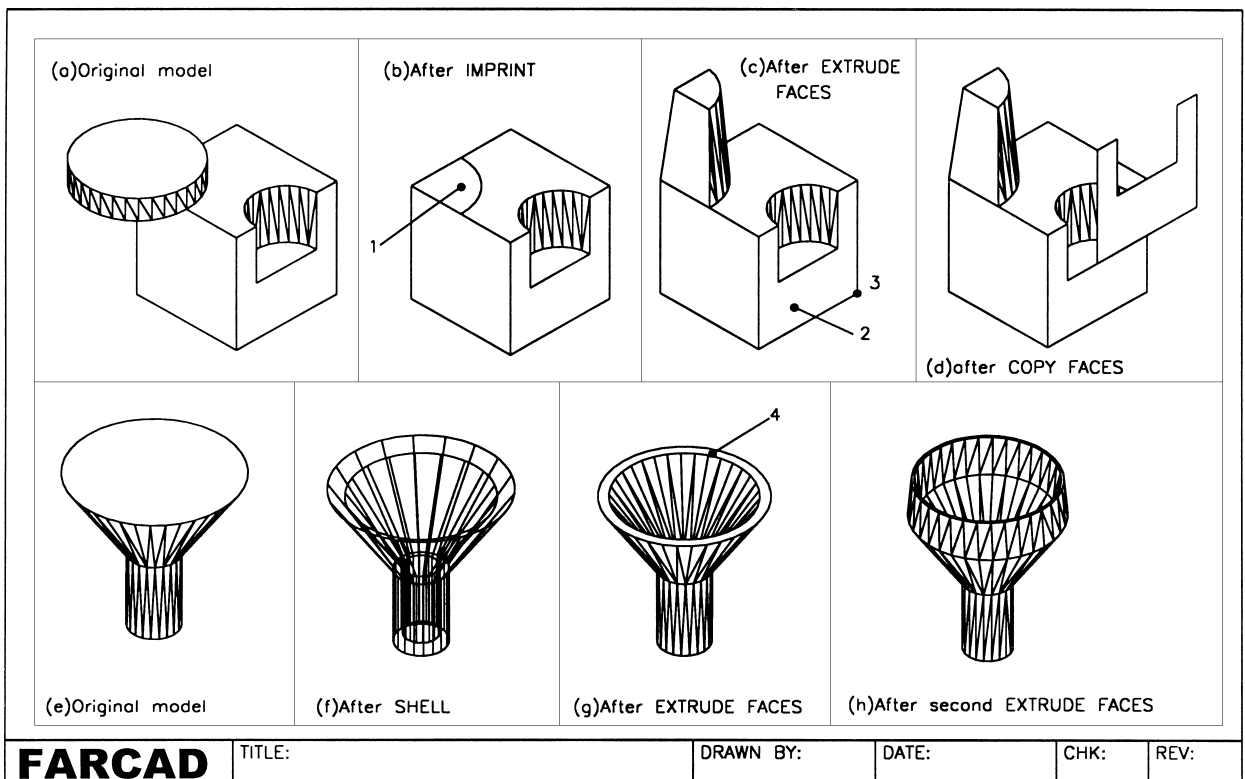

Figure 35.3 Solids editing example 3.
- 1 Open your SOLA3 template file and refer to Fig. 35.3. Display suitable toolbars.